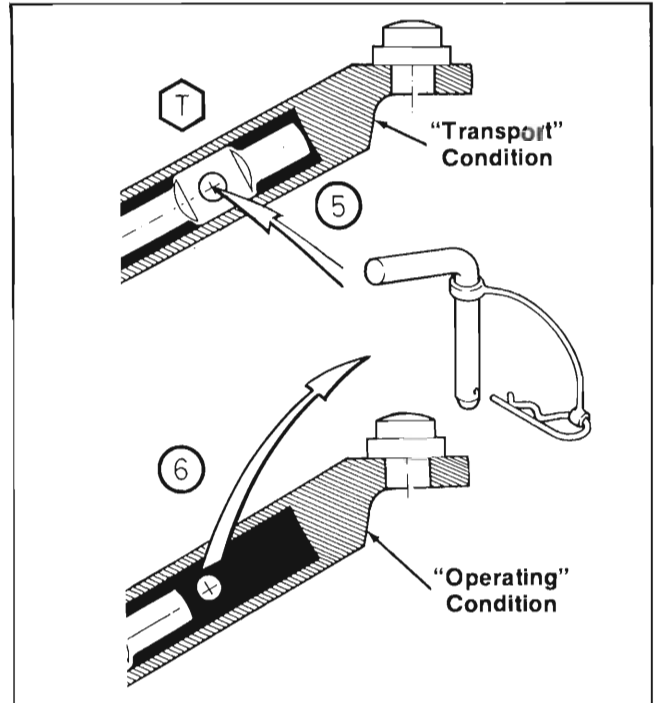

Fig. 21
5. Remove the Locking Pin from the Telescoping Spring (5 of Fig. 21). Using the tractor hydraulic lever, free the Pin for removal (6 of Fig. 21). Place the Pin in the Transport hole position of the "width" adjustment.